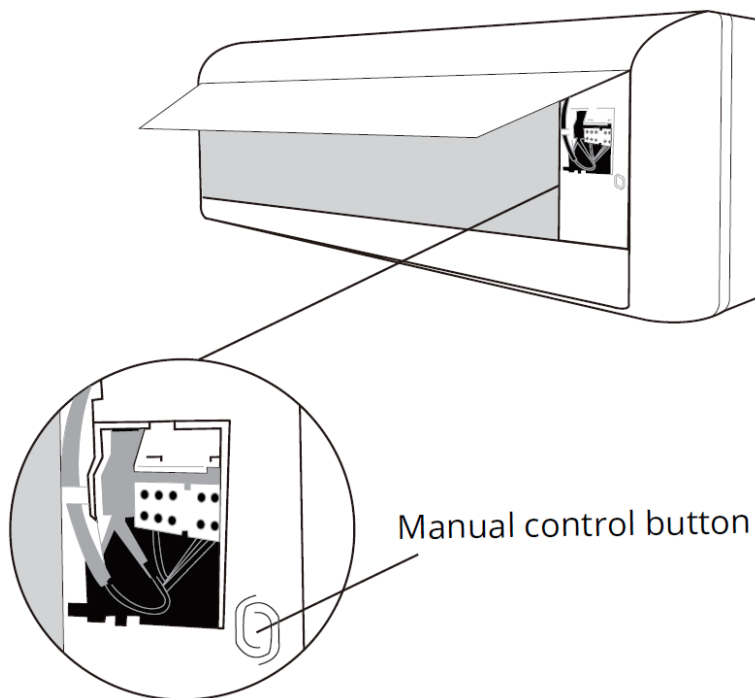

Fig. 9.1
2. The **MANUAL CONTROL** button is located on the right-hand side of the unit. Press it 2 times to select the COOL function. See **Fig.9.1**.